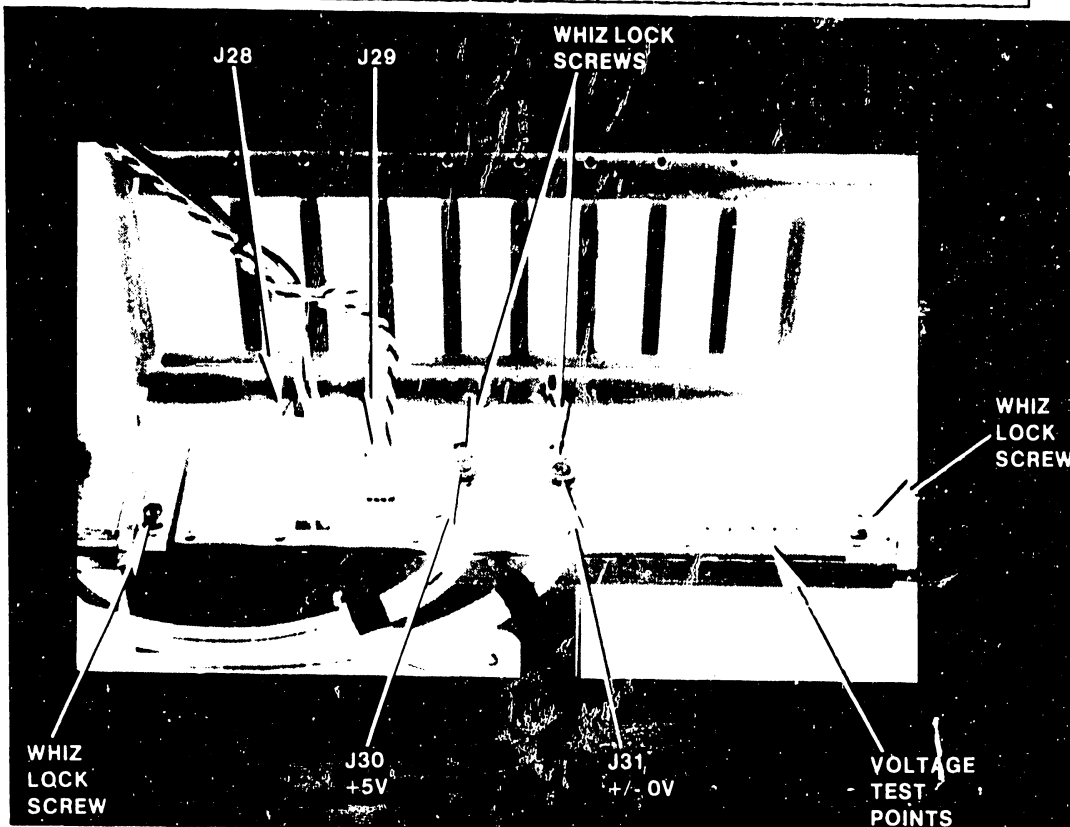

Figure C-1. Motherboard Power Connectors
- b. Using a digital voltmeter, check the voltages at the Motherboard test points (figures C-1 and C-2), except for the +24 Volts which should be measured at J5, pin 1 of the Floppy disk drive (figure C-3). If the voltages are within operating limits, proceed to paragraph 5, 210-8304 BP Board Removal and Replacement. If the dc voltages are not within operating limits, the switching power supply must be adjusted. The power supply must be removed from the main frame to make the adjustments.